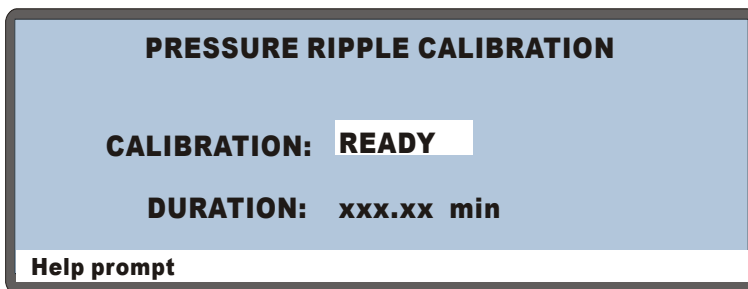

Figure 3-2. Pressure Ripple Calibration Screen
2. Go to the **CALIBRATION MENU** and select the **PRESSURE RIPPLE CALIBRATION** screen (see Figure 3-2).